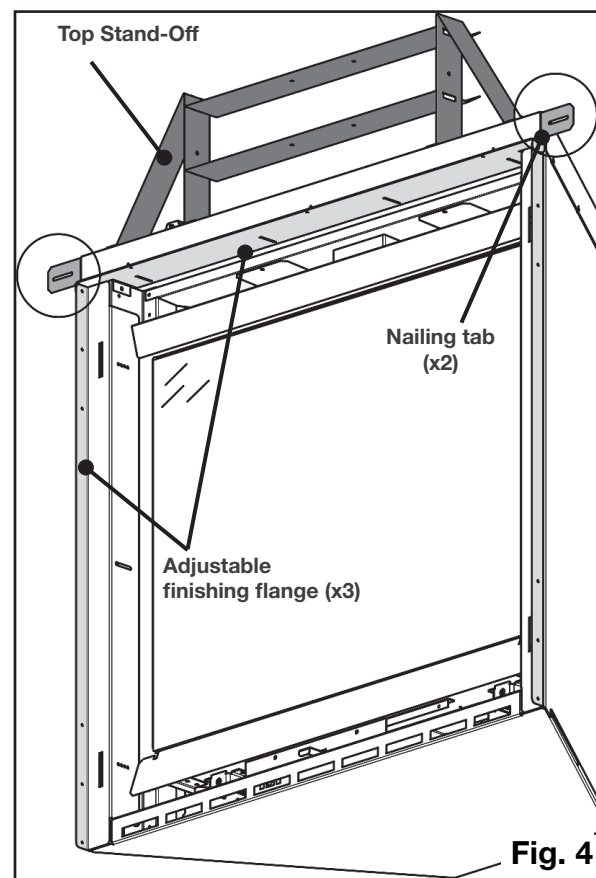

Fig. 4
- Nailing tabs are supplied in the manual baggie and are used to secure the fireplace to the framing enclosure (see page 18 in Installation Manual) (Fig. 4). **NOTE: Do not use bend-out tabs on the frame.**
- Top stand-offs must be assembled to ensure minimum clearance to the combustible header (see page 19 in Installation Manual) (Fig. 4).
- In order to accommodate varying finishing depths, appliance includes adjustable finishing flange (see page 41 in Installation Manual) (Fig. 4).